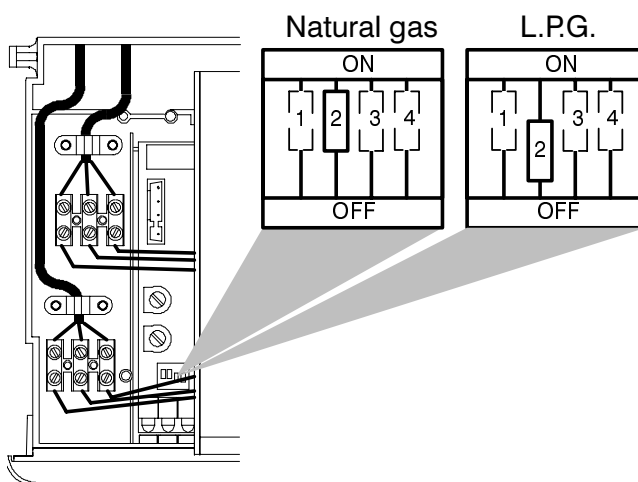

Fig. 8.2
- 9 set correctly the dip-switch "2" to the correct position (Fig. 8.2) in accordance with the following table.